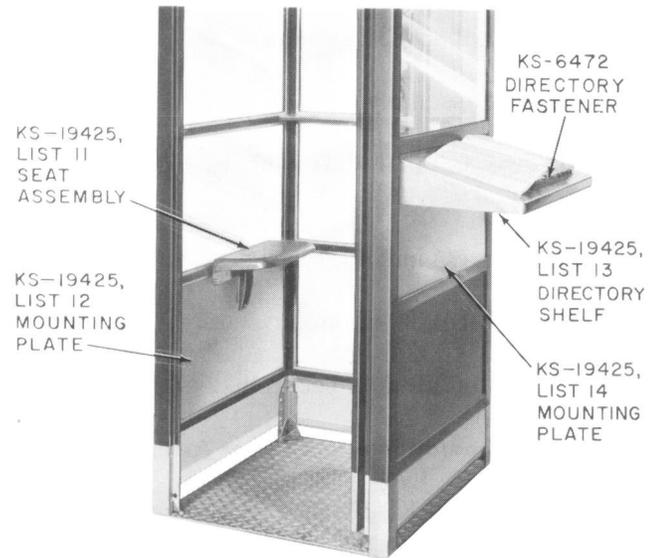

Fig. 17—KS-19425, List 11 Seat Assembly, KS-19425 List 13 Directory Shelf and Associated Mounting Plates
- (1) Secure the shelf assembly to the bottom of the backboard and to the cross rails using seven No. 10-32 by 1/2-inch Phillips RHM screws.
- (2) Secure the directory rack to the bracket on the underside of the shelf using the four No. 10-32 by 1/4-inch Phillips RHM screws furnished with the directory rack.
3.22 To install KS-19425, List 13 directory shelf (Fig. 17):
- (1) Install KS-19425, List 14 (Fig. 17) mounting plate in the same manner as a standard glass panel in the second position on the right side of the booth. Install the plate with shelf mounting holes toward top.
- 3.23** To install KS-19425, List 11 seat assembly (Fig. 17):
- (1) Install the KS-19425, List 12 (Fig. 17) mounting plate in the same manner as a standard glass panel in the bottom position on the left side of the booth.
- (2) Install a B-650894 clip (furnished with seat assembly) on each corner of the List 12 mounting plate using four No. 8-32 by 3/8-inch Phillips RHM screws.